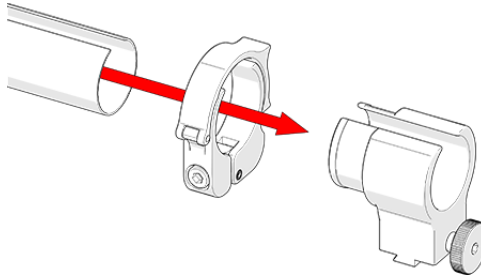

Figure 3-56 Slide tube around mount
2. Slide the clamp around the tube first and then slide the tube around the outside of the zipper tube dovetail mount (see Figure 3-56 on page 76).